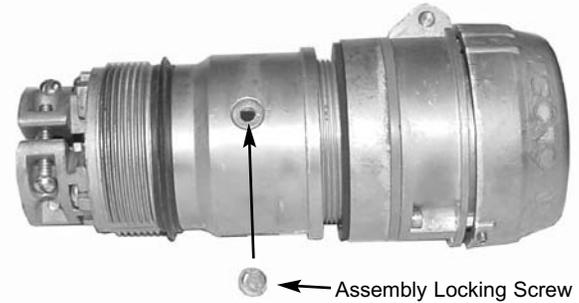

Figure 6
6. Thread the front half into the handle body until it bottoms out. Then unscrew the front half no more than 1 revolution until the tapped hole for the assembly lock screw lines up with the hole in the handle body. Assemble the screw, washer and o-ring together, with o-ring against handle body. Tighten screw. See Figure 6.